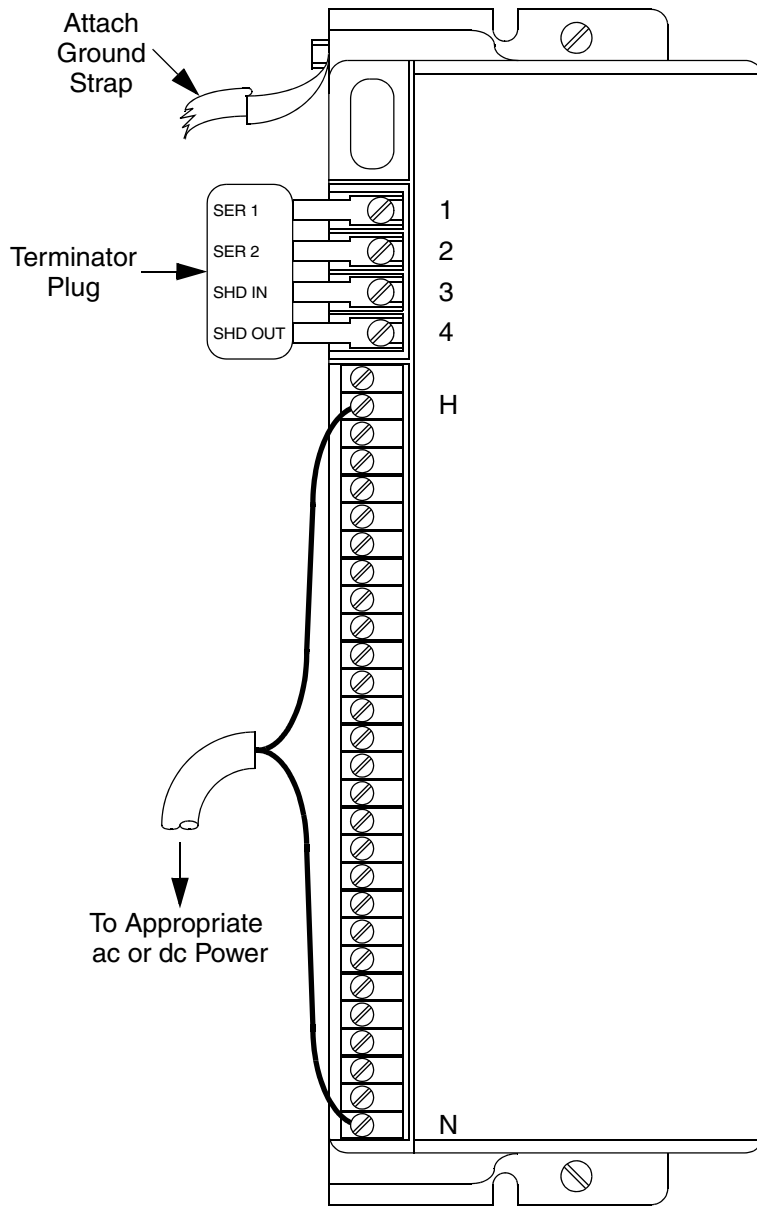

Figure 105. Preparing a Block for Off-Line Configuration
1. Connect a 75 ohm resistor across the Serial 1 and Serial 2 terminals or use the 75 ohm terminator plug (6200FP00075A), Figure 105.
2. Attach a grounding strap to the ground screw on the side of the block. See Figure 105. Be sure the strap is connected to earth ground.